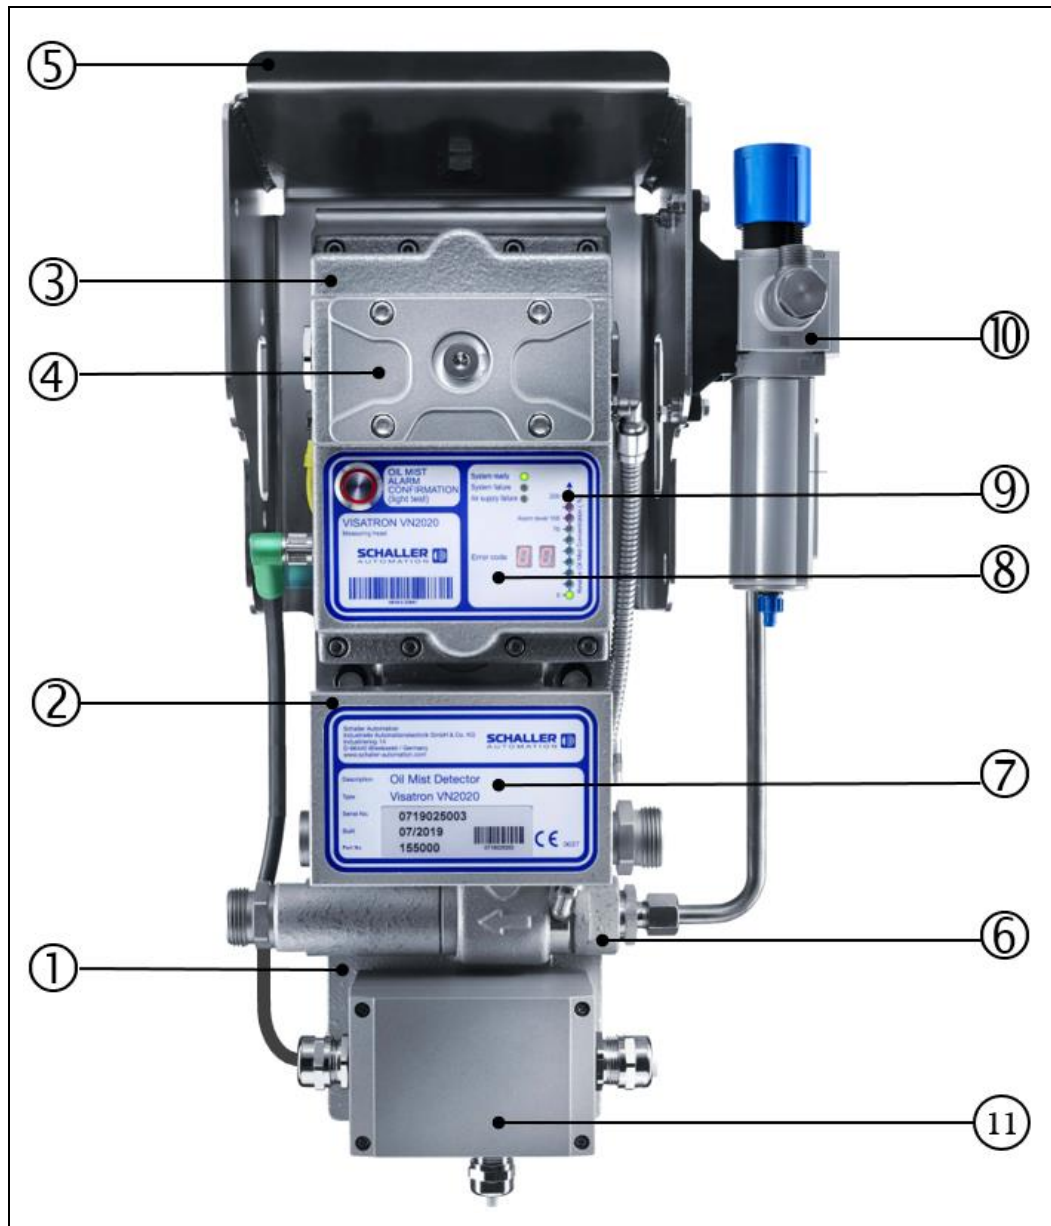

Fig.: 12 : Component overview for the VISATRON® VN2020 oil mist detector
The central part of the oil mist detector, as shown in Figures 12 and 13, is the measuring head (3), which includes an optical measuring track under the inspection cover (4) and an LED display (9) to display all important information for the user under normal operating conditions. The measuring head is attached to the base plate (1) via a vibration-protected mounting plate.